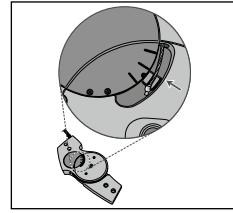

Fig. 10
16. Slide the satellite switch into the Automatic Position (Mode 1) (**see Fig. 1**) and check within the Function Unit of the joint if the top of the Lever Arm has moved and now is parallel with the center marker (**see Fig. 10**).